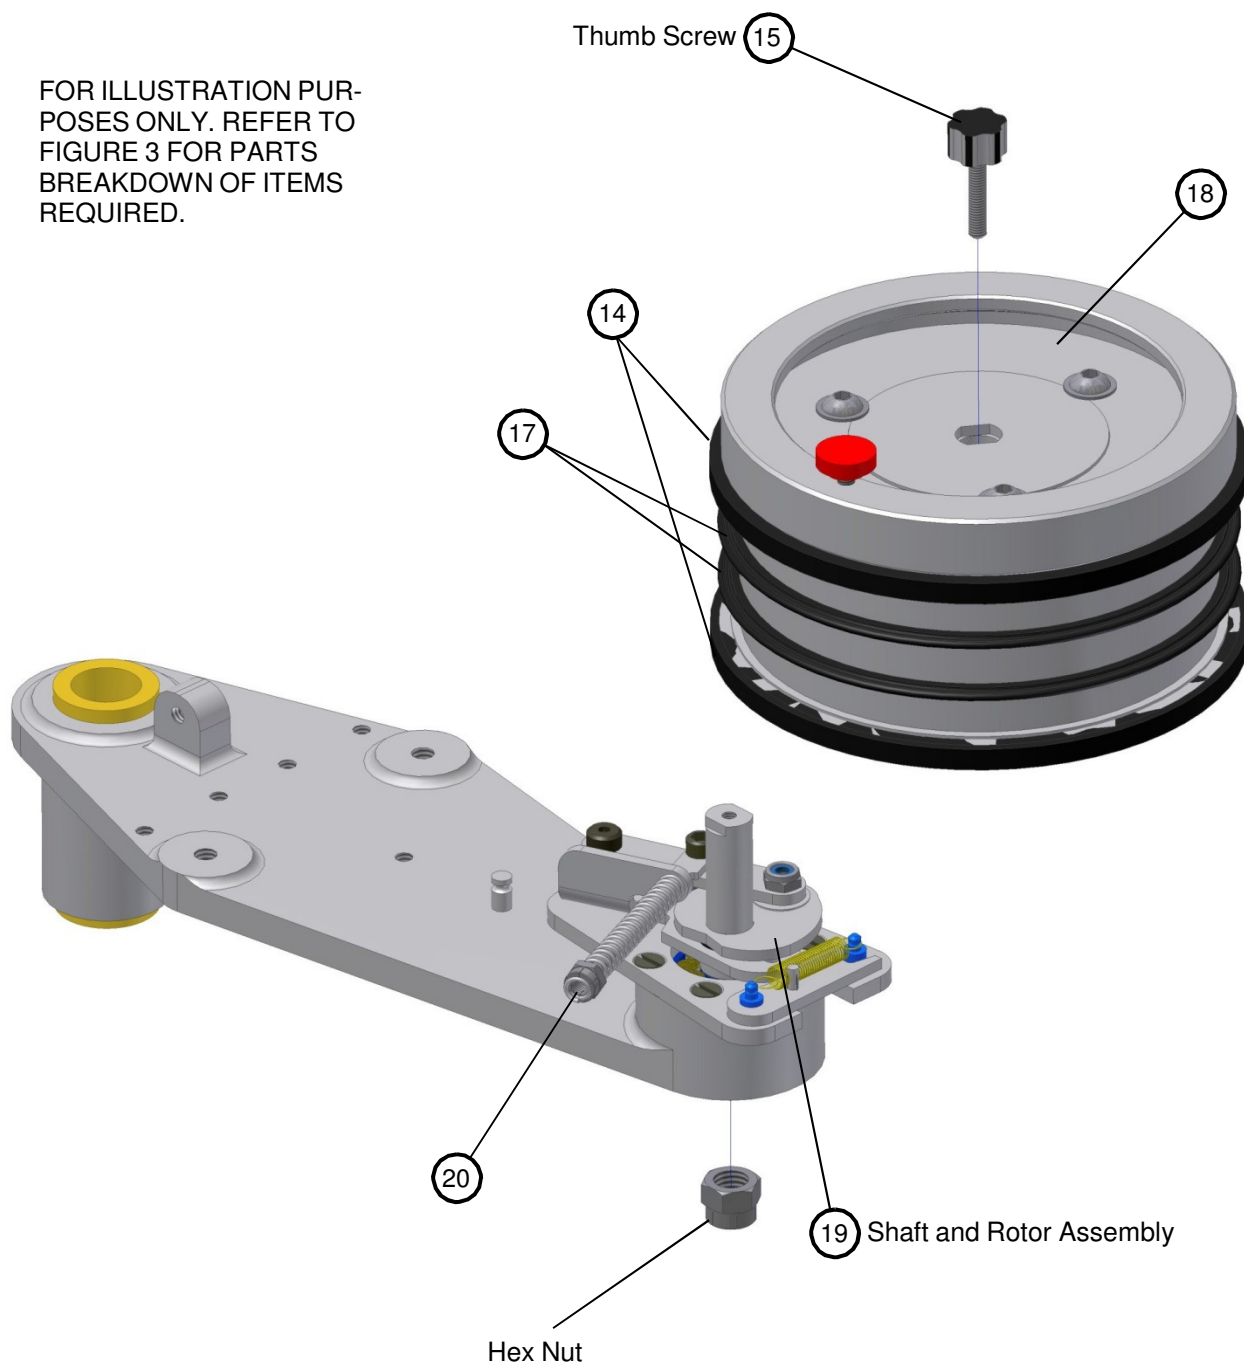

FIGURE 2
4. Check for loose hex nut (see Figure 2).
INSTRUCTIONS FOR MOUNTING NEW DIE WHEEL ASSEMBLY AND DIE WHEEL SHAFT AND ROTOR ASSEMBLY (Figure 2)